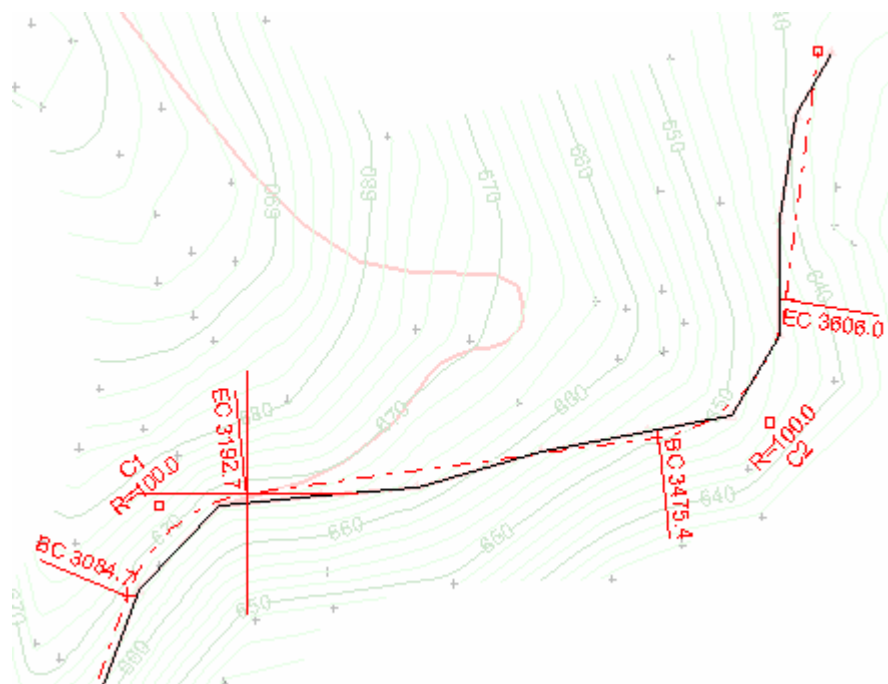

Figure 4.15: Two Curves Completed
11. Zoom and Pan until you can see both curves as shown in Figure 4.15.